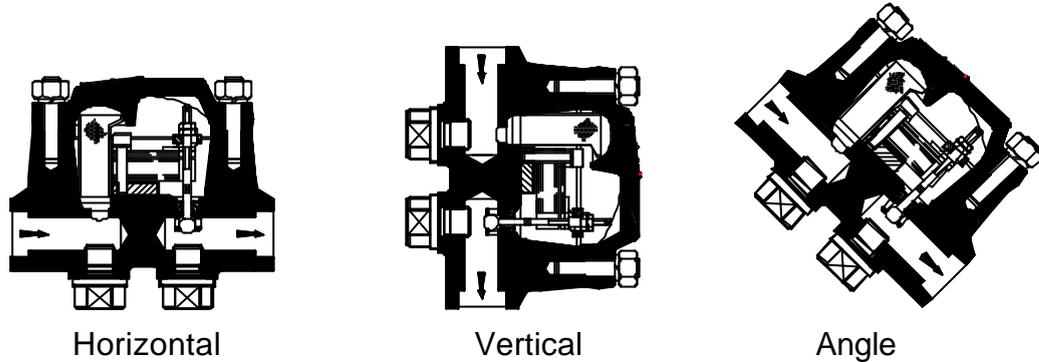
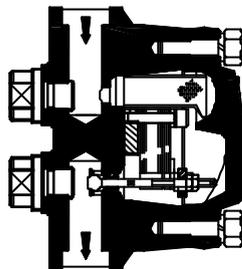

Fig.5 All position installation
Fig.6 Self draining
- a. The trap can be installed in any convenient position see fig 5. In the vertical position with the inlet on top, the trap is self-draining and therefore freezeproof, provided the condensate can drain away see fig 6. Direction of flow is indicated by arrows- integrally forged under the body and on the cover.